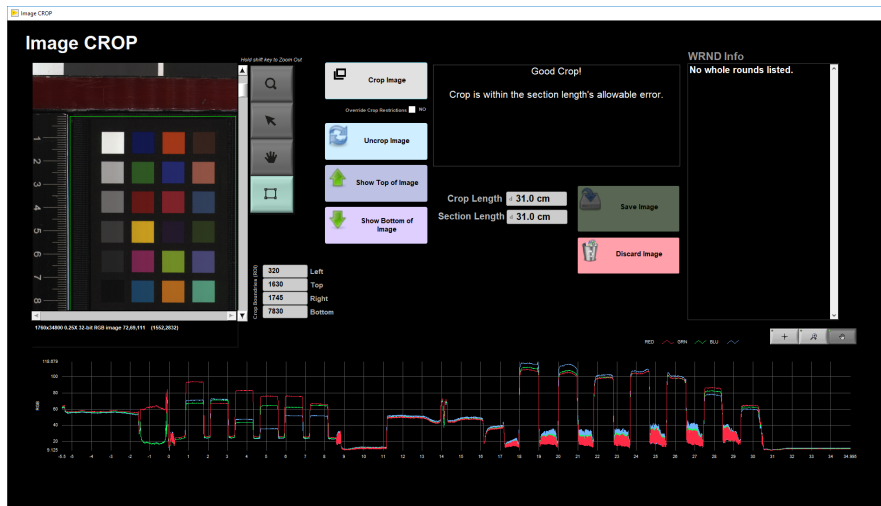

Figure 41. Crop and Save Window
5. Adjust green crop box as necessary. When satisfied select **Crop Image** and then **Save Image** (Figure 41)